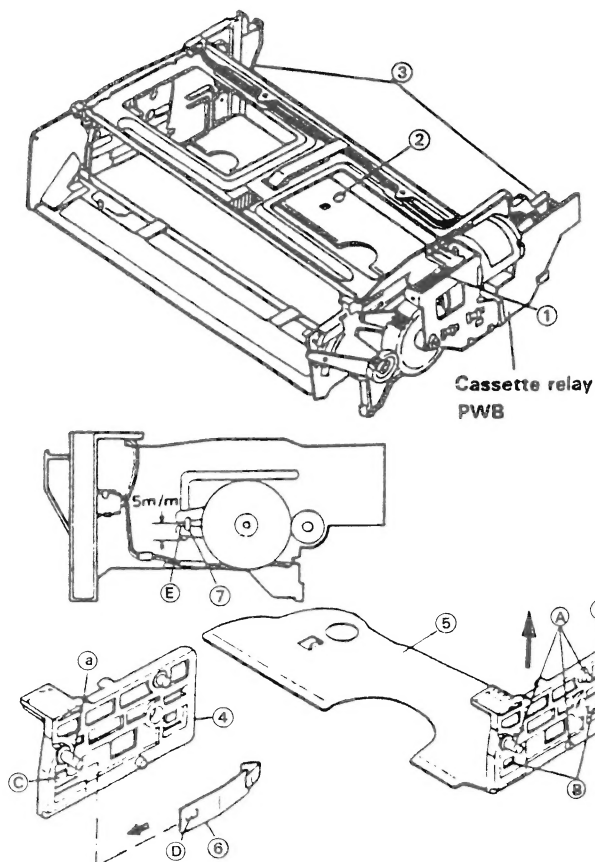

Figure 1-4.
• **Disassembly (Fig. 1-4)**
1. Turn the worm gear (1) by hand counterclockwise until the cassette slider assembly (2) reaches the bottom position.
2. Slightly extend the right and left frames (3) to allow the tabs (A) of the cassette slider assembly (2) to go out of the holes of the right and left frames.
4. Remove the lock release lever (6) from the slider holder (right).
• **Reassembly (Fig. 1-4)**
1. Put the lock release lever (6) to the slider holder (right) (4): check that the tab (C) of the slider holder (right) is surely engaged with the hole (D) of the lock release lever.
2. Move the lock release lever so that it is positioned inside the tab of the cassette slider (5).
3. Extend the right and left frames and let the right and left tabs (A) of the cassette slider assembly be engaged with the grooves of the right and left frames.